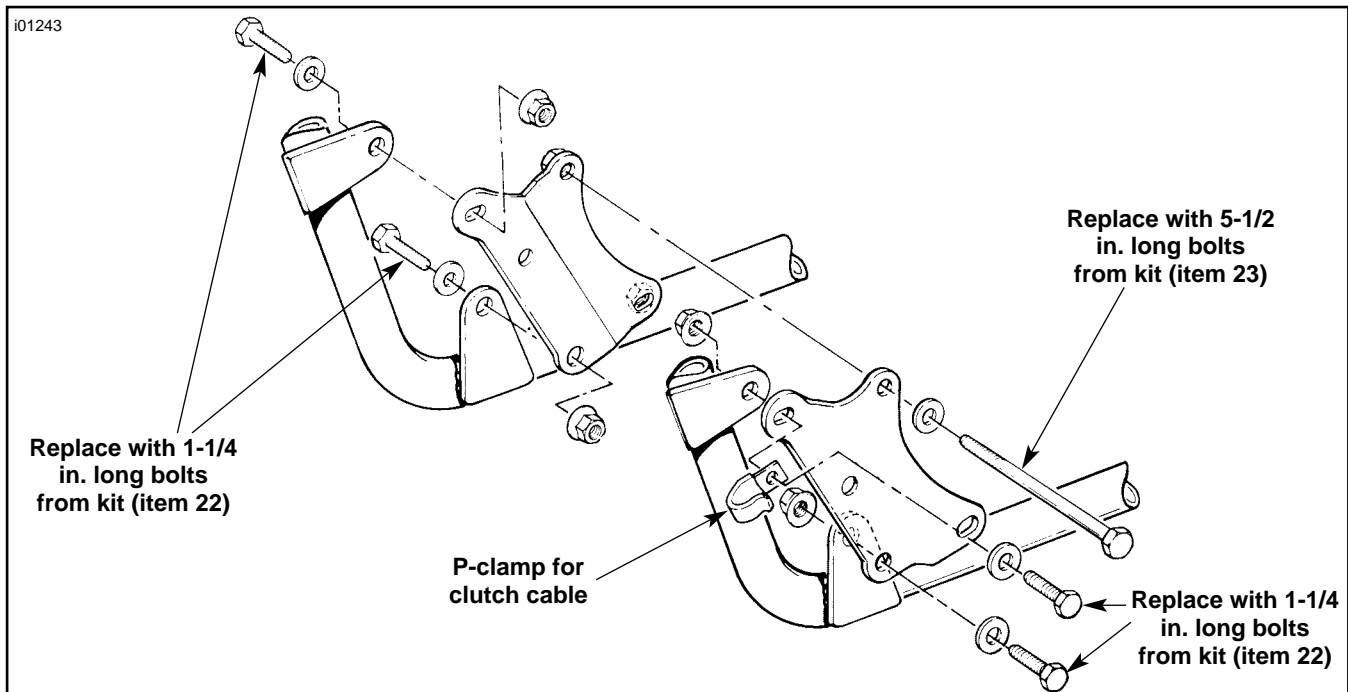
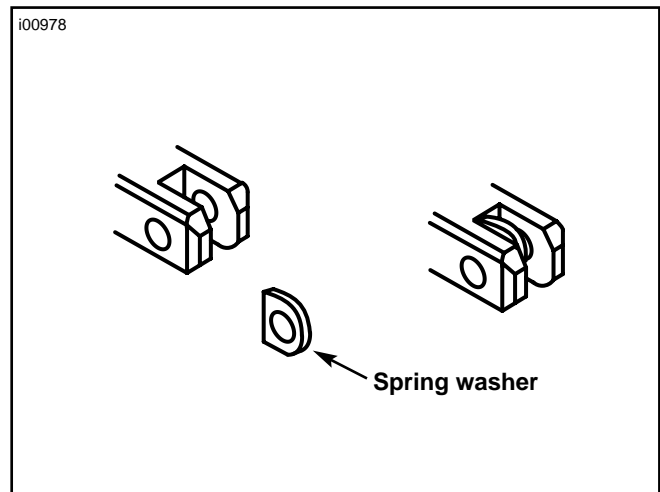

Figure 1. Stock Front Motor Mounts
Figure 3. Footrest
1. Remove stock footrest assembly and save footrest for reinstallation. Replace existing sockethead capscrews that attached footrest bracket to primary cover with washers (5) and shorter screws (21) from kit.
3. See Figure 1. Remove left side stock motor mount and save nuts, washers, and P-clamp for clutch cable. The bolts will be replaced.
4. Put Loctite 243 on threads of left side foot control support (15) and thread support into left side machine motor mount (11). Install C-clip (8) onto support where it exits the backside of machine motor mount to hold support in place.
6. Install shift lever (14) from kit using stock fastener.
7. Put Loctite 243 on threads of clevis mounting screw (4) and install shift lever pedal (13), clevis (17), and footrest (stock), as shown. To install footrest, place a spring washer (19), along with the mount end of the footpeg, inside the slots of the clevis. Make sure the spring washer is positioned inside the clevis with the square edge towards the inside as shown in Figure 3. Secure footpeg and spring washer with bolt (2) and locknut (7). Tighten locknuts to 19 ft-lbs (26 Nm).
7. See Figure 1. Remove right side stock motor mount and save nuts and washers. The bolts will be replaced.
8. Put Loctite 243 on threads of right side foot control support (16) and thread support into right side machine motor mount (10). Install C-clip (8) onto support where it exits the backside of machine motor mount to hold support in place.
10. Install brake pedal assembly (18) into master cylinder by turning push rod at flats to thread on rod end. Adjust rod length with jam nut (6) until brake pedal has reached a 45 degree angle.
11. Put Loctite 243 on threads of clevis mounting screw (4) and install clevis (17), and footrest (stock), as shown. To install footrest, place a spring washer (19), along with the mount end of the footpeg, inside the slots of the clevis. Make sure the spring washer is positioned inside the clevis with the square edge towards the inside as shown in Figure 3. Secure footpeg and spring washer with bolt (2) and locknut (7). Tighten locknuts to 19 ft-lbs (26 Nm).